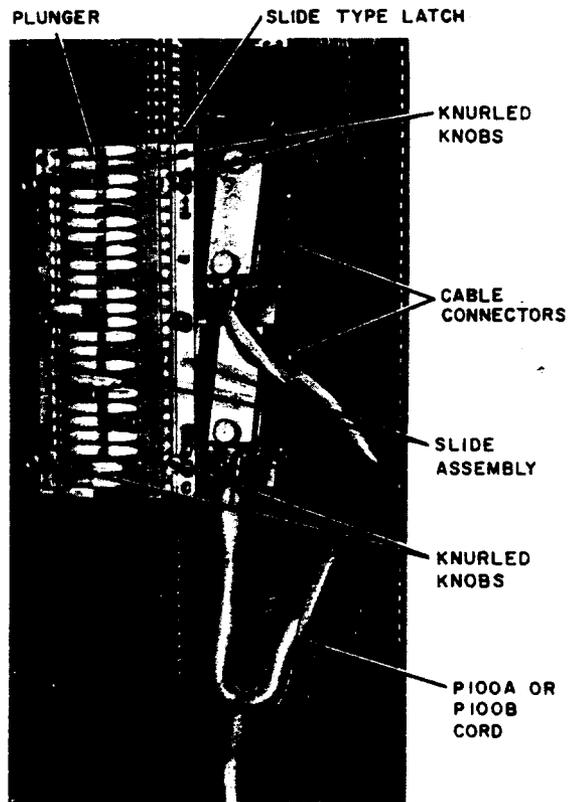

Figure 14—F Test Connector (AT-8345) Mounted on a 444-Type Jack
2.15 The F test connector (Figure 14) is used to make test contacts with 50 consecutive pairs terminated on the 444-type jack or 301-type connector. The connector can be interconnected to automatic pair identification equipment through its two 25-pair connectors and by means of P100A or P100B cords, ordered separately. The test connector is equipped with a C connector case.